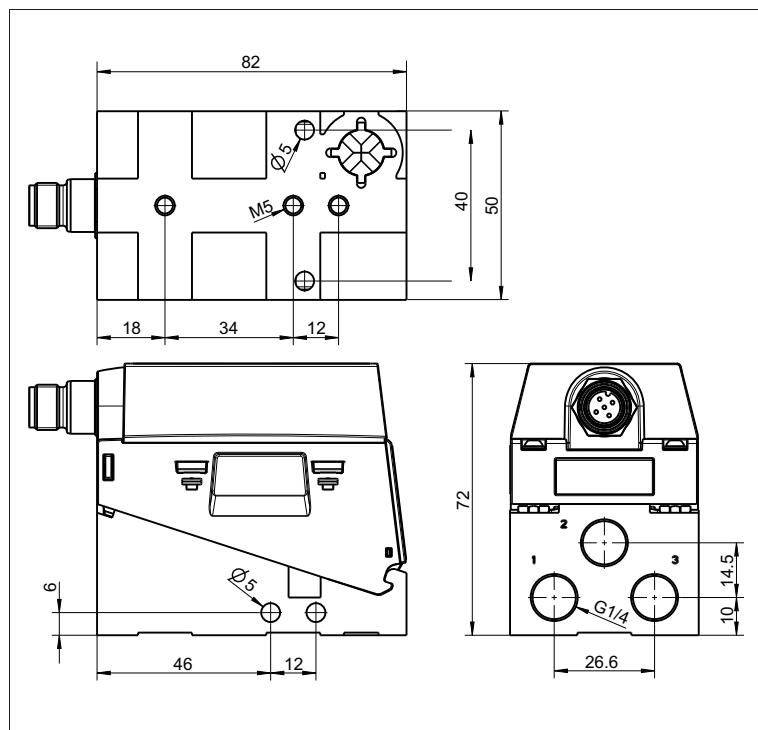

Fig. 4: Dimensioned drawing
- ▶ See the dimensioned drawing for the hole spacing (see Fig. 4).